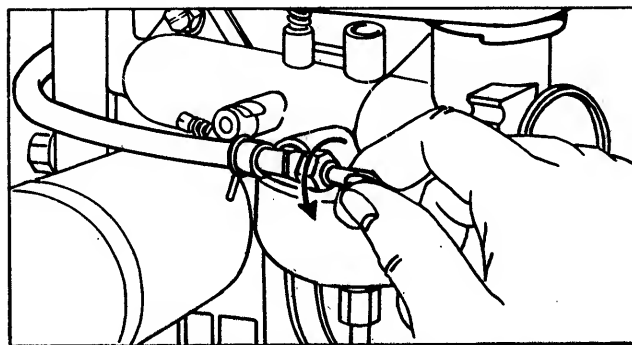

FIGURE 14. FUEL SHUT-OFF VALVE
Step 1. Be sure the fuel shut-off valve is open. See figure 14.